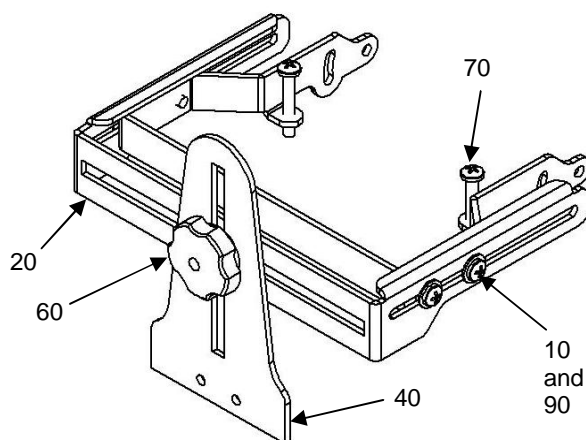

Figure 1. NAV-1 Lens Support
3. Carefully inspect all components for damage. See Table 2, Figure 1, and Figure 2.